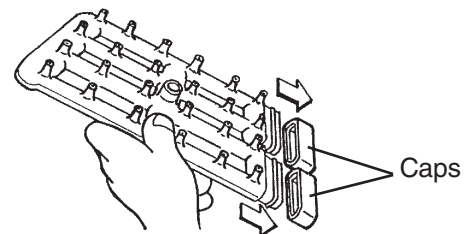

Fig. 43
- 8) Remove the two caps. See Fig. 43.